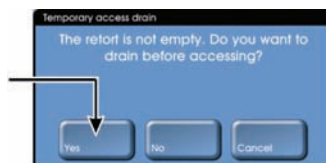

Figure 76: Temporary access drain” dialog box with Yes option
2. The “Temporary access drain” dialog box will now appear; select the **Yes** option to drain the retort prior to access (see Figure 76).